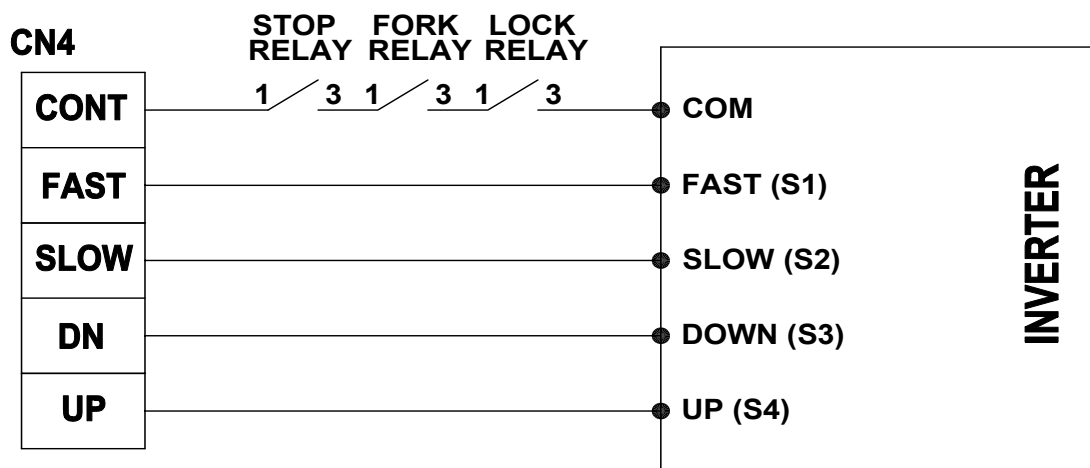

Figure 23.0 - Inverter System Connections
The terminals of the Inverter System are connected as illustrated in Figure 23.0.
- The motor speed and direction signals connector (CN4) are connected as illustrated in Figure 23.0.